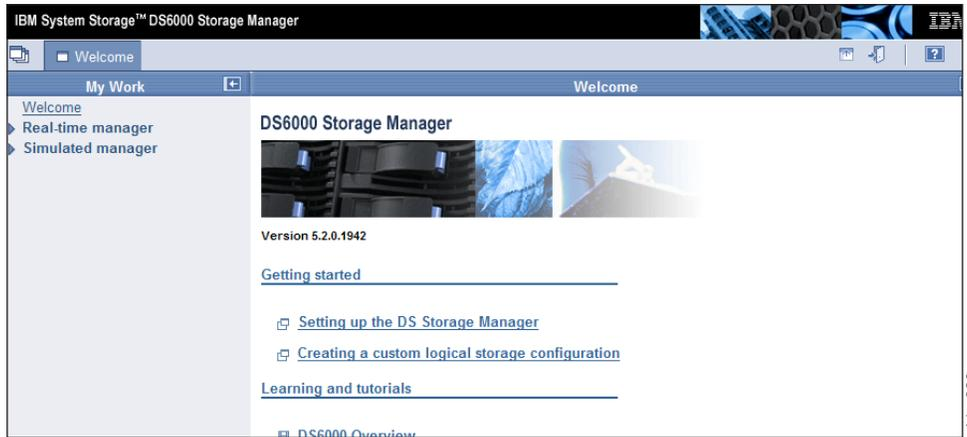

Figure 246. Storage Manager Welcome Screen
4. Once the DS6000 GUI is launched, Figure 246 on page 197 displays.